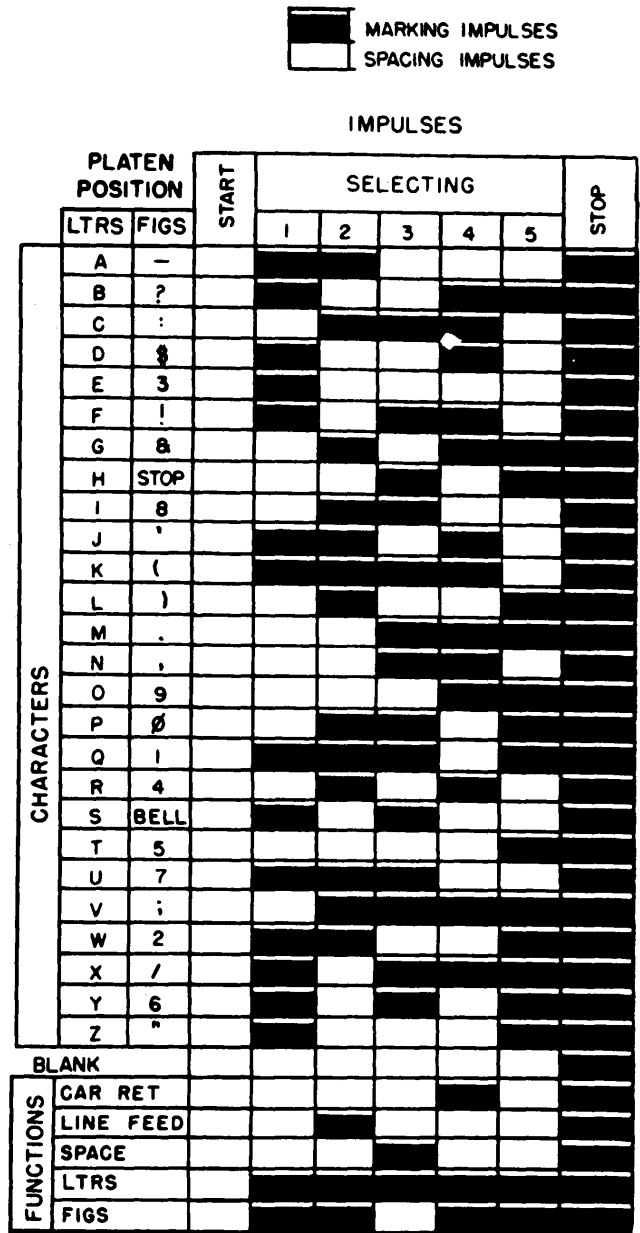

Figure 2-2. Teletypewriter code chart.
(fig. 2-2)
*a.* When the space bar is pressed, the space-bar lever (fig. 2-12 and 2-13) positions the five code bars for the space code group (fig. 2-2), and it moves the universal bar to the right to pivot the cam-stop lever latch and the repeat lever counterclockwise, causing the repeat-blocking lever to turn clockwise. Under these conditions, a slot appears below the right-hand arm of the cam-stop lever. The cam-stop lever spring pivots the cam-stop lever clockwise, permitting the friction clutch to turn the transmitter camshaft to transmit repeated space code groups. The repeat lever prevents the repeat-blocking lever from moving under the right hand arm of the cam-stop lever as occurs during transmission of all other code groups (para 2-11c).